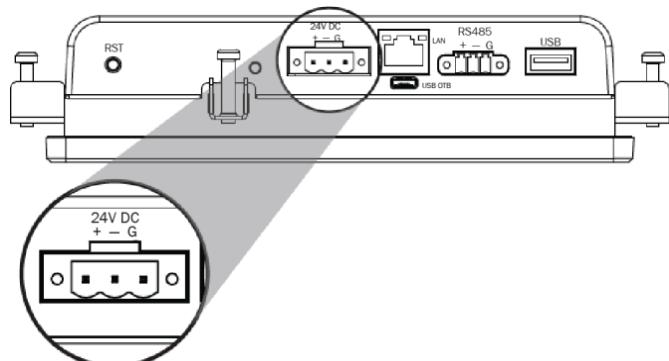

Fig. 9 — Wiring TruVu™ ET Display to the Power Supply
- Wire the TruVu™ ET display **24 vdc** connector to the 24 vdc power supply using 2-conductor 18 AWG wire. Maximum distance 100 ft (30 m). See Fig. 9 for the ET display to the power supply.